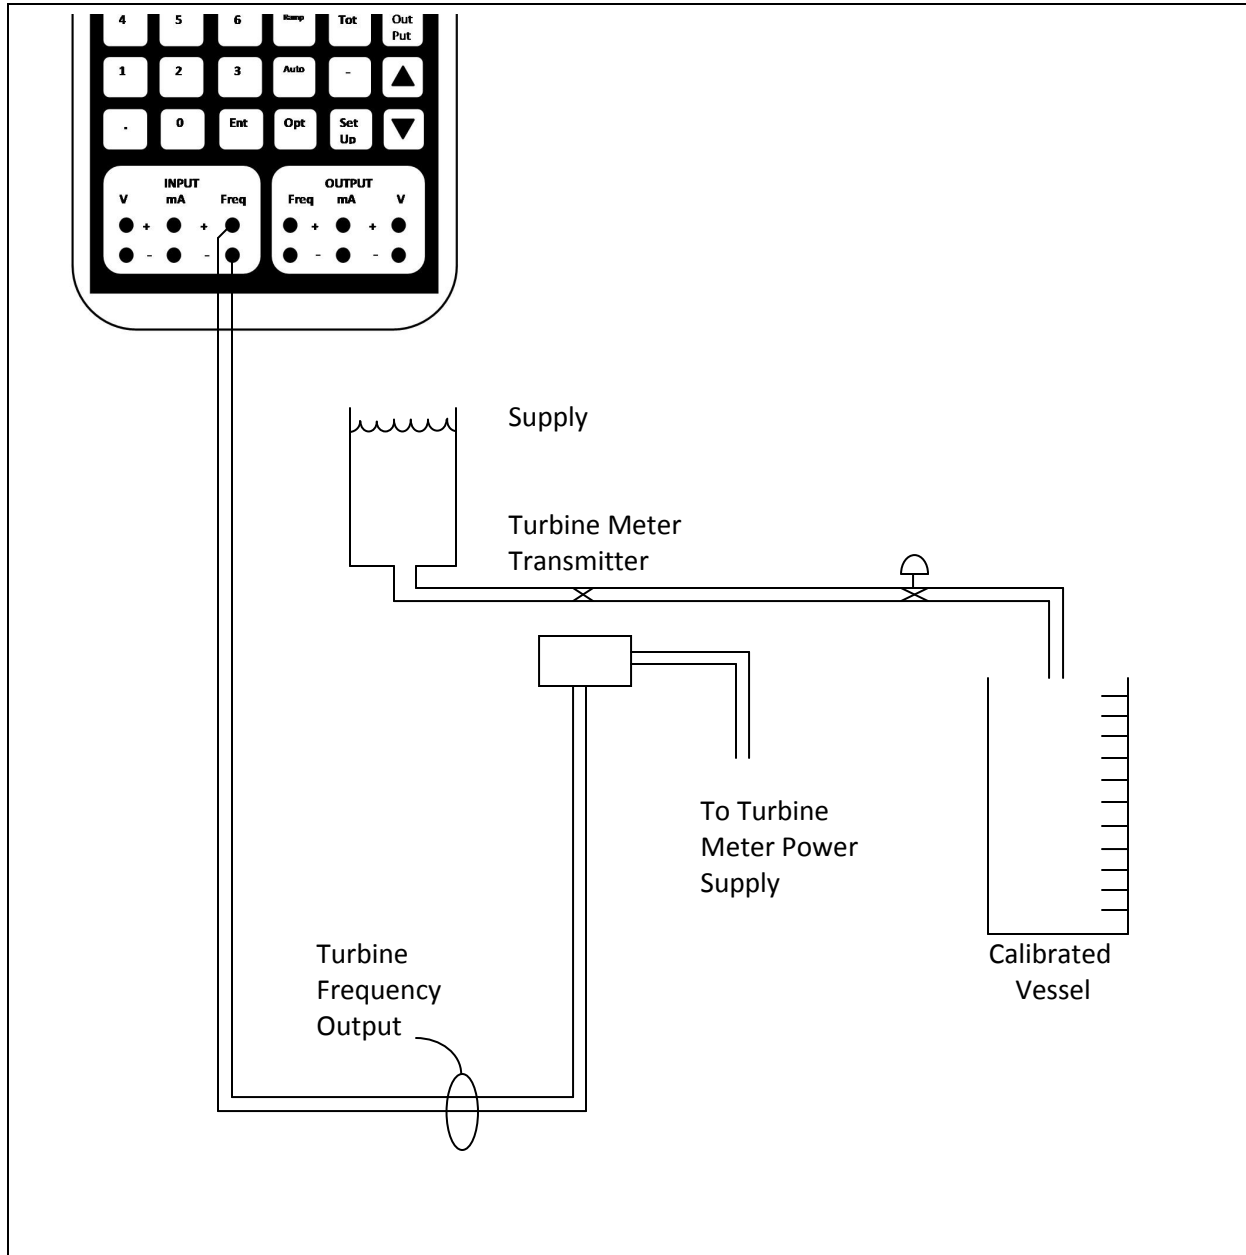

Figure 4
1. Connect the frequency or pulse output leads of the flow transmitter to the frequency input terminals of the Model 130/135 calibrator as shown in Figure 4.